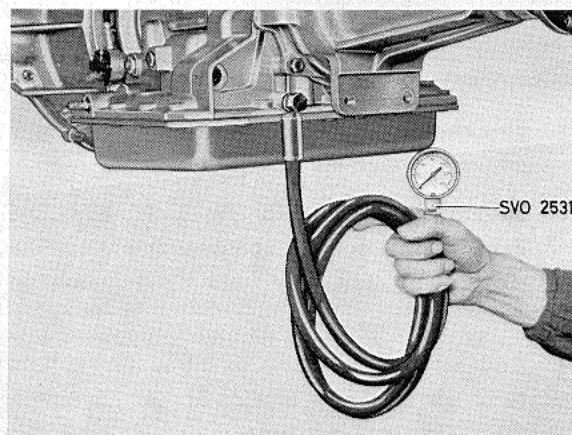

Fig. 30. Connecting manometer
1. Connect a tachometer to the engine and manometer to the transmission as shown in Fig. 30.
* AS5—35 EN (164) with effect from serial No. 1829: 25—30 p.s.i. (1.8—2.1 kg/cm²).